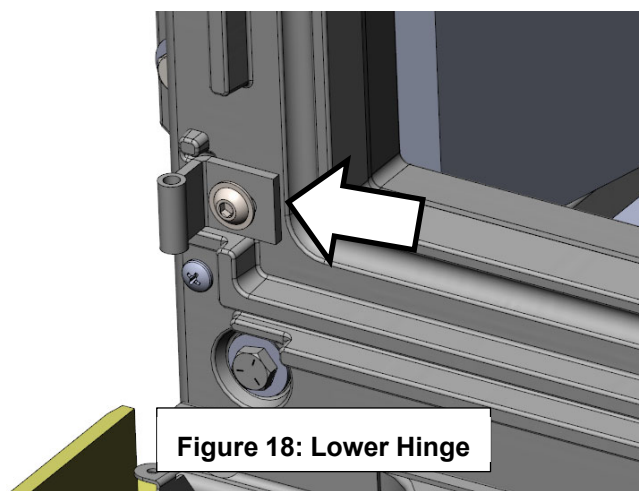

Figure 18: Lower Hinge
Step 4: Remove the bottom hinge from the face of the insert. Reinstall the hinges to the opposing side of the stove in the tapped holes from step 2. (Figure 18)